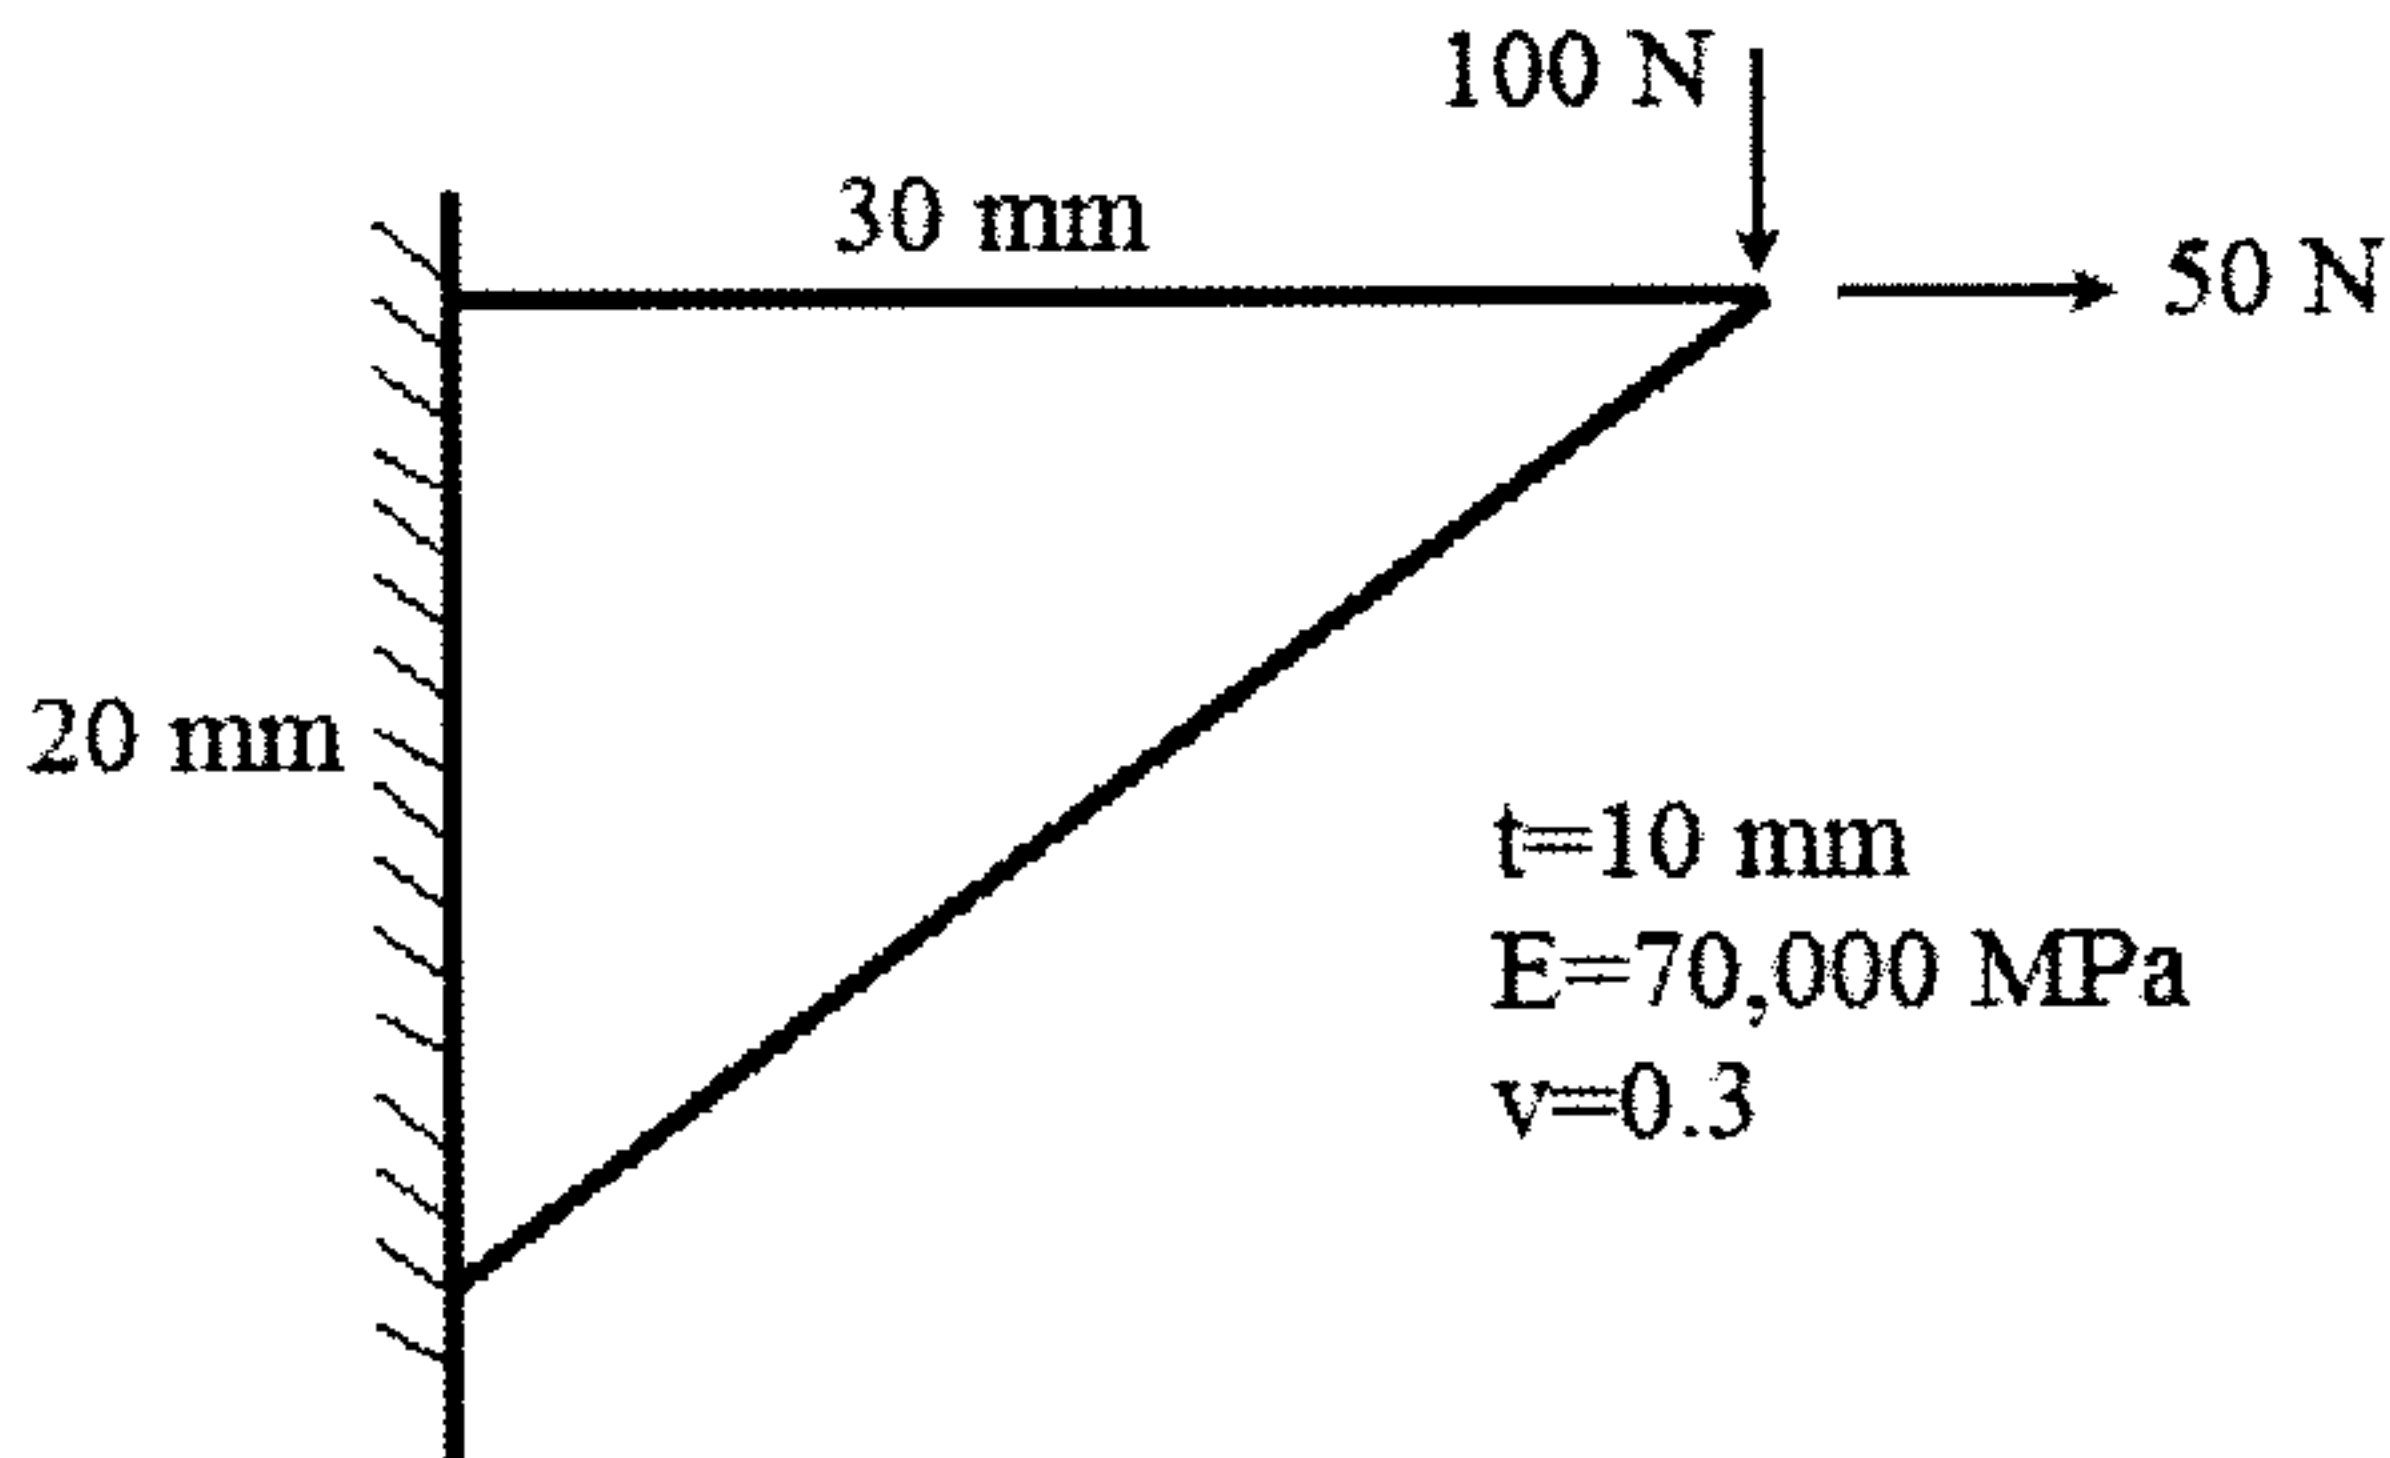

Figure -4
6. For the two dimensional plate shown in Figure-4. Determine the deflection at the point of load application using one element model. Assume plane stress condition. 14 M